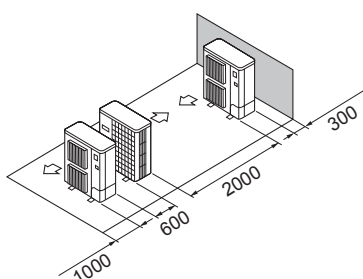

Fig. 2-16
- ⑤ Enkelt parallel enhed arrangement (Fig. 2-16)